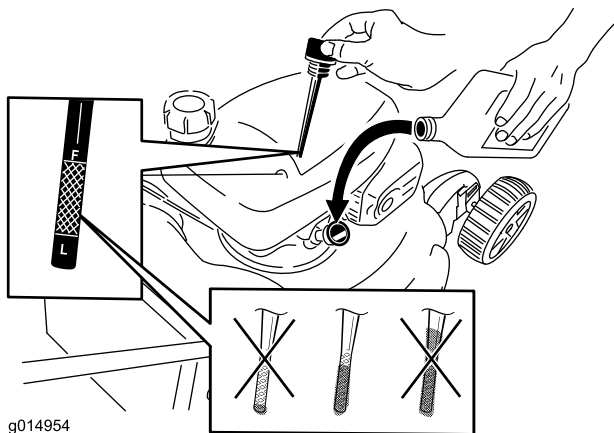

Figure 26
8. **Slowly** pour oil into the oil fill tube until the oil level reaches the **Full** mark on the dipstick (Figure 26). **Do not overfill.** (Max. fill: 19 oz (0.55 L), **type: SAE 30 automotive grade oil** with an API service classification of SL, SM, or higher. SAE 10W30 may be used if SAE 30 is not readily available.)